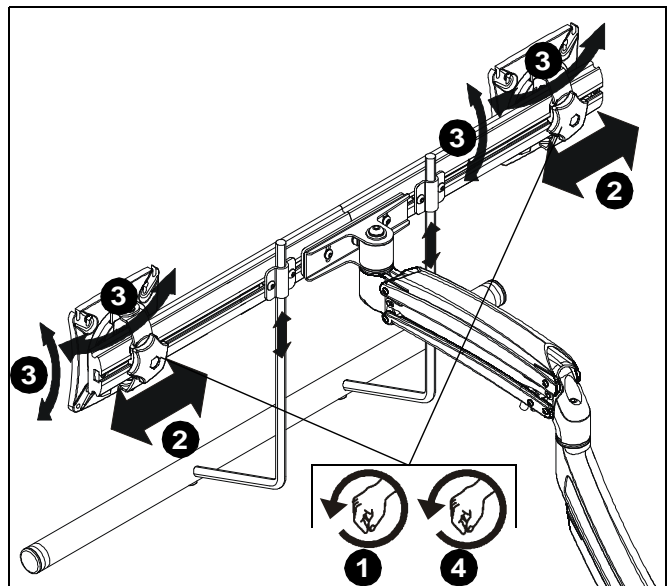

Figure 20
1. Loosen knobs securing faceplates to array. (See Figure 20)
2. Slide displays laterally on array to adjust lateral shift. (See Figure 20)
3. Adjust pitch and pivot position as desired. (See Figure 20)
4. Tighten knobs to secure faceplates in position. (See Figure 20)